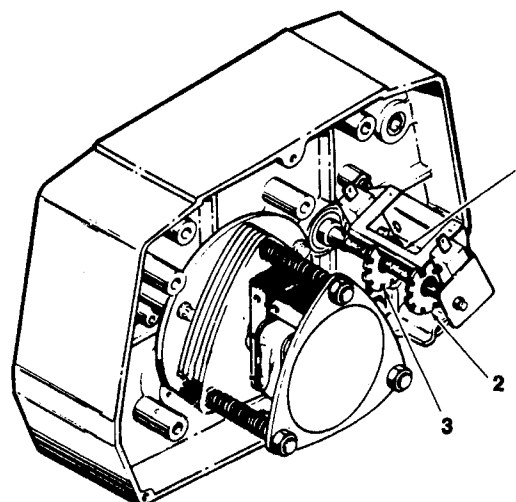

FIGURE 5-1. LIMIT SWITCH ADJUSTMENT
Limit switches are provided to protect the hoist against damage resulting from overtravel. For easy identification the upper (No. 2, Figure 5-1) and lower (No. 3, Figure 5-1) limit switch adjusting nuts are colored brass and zinc respectively. Each limit switch nut has ten slots for adjustment, and the increment of adjustment is such that one slot is equivalent to one link of chain travel. Care should be exercised when adjusting either limit of travel. When a geared type limit switch is furnished (long lift hoists) each adjustment is equal to 3 links of chain, or 30 links per revolution.
- 3.) With a screwdriver, pry the spring guide plate (No. 1, Figure 5-1) out of the slots in the colored limit switch nuts (Nos. 2 and 3).
- c. With a screwdriver, push the spring guide plate (No. 1, Figure 5-1) out of the slots in the limit switch nuts. Turn the brass slotted nut (2) back to about the center of the threaded screw. **DO NOT DISCONNECT THE WIRES FROM THE LIMIT SWITCHES.**